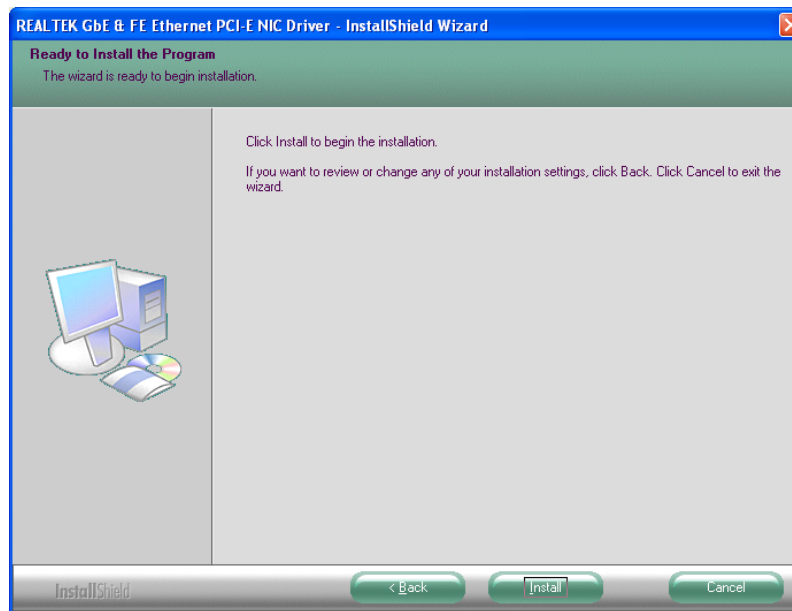

Figure 6-16: LAN Driver Welcome Screen
Step 4: The **Ready to Install** screen in **Figure 6-16** appears.